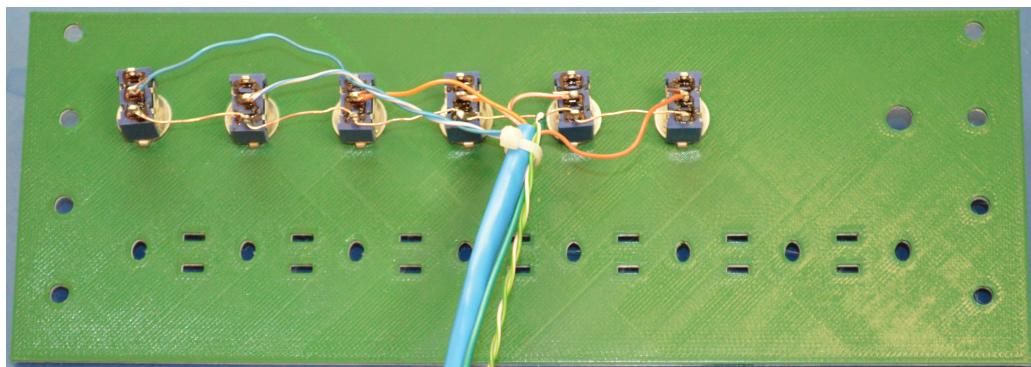

Figure 2.20: Control Panel Switches Showing Wiring
- Install the wiring for the switches as shown in Figure 2.20. Since the control panel has only six switches, one of the cable pairs is unused.